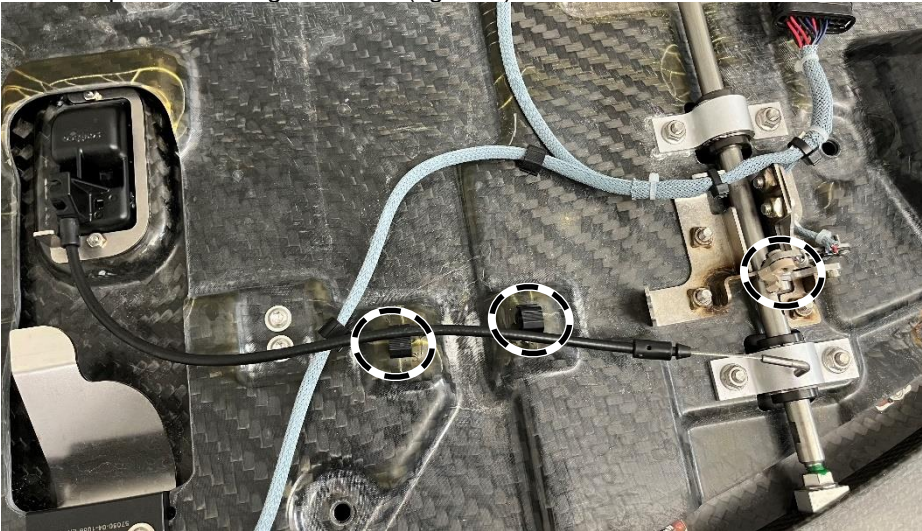

Figure 7
2. Unclip cables on right and left (figure 7).